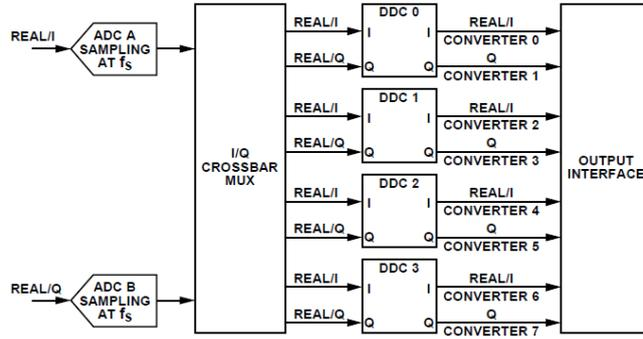
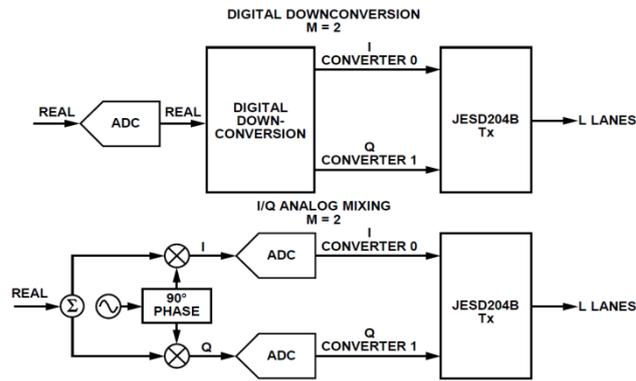

Figure 12. DDC and Virtual Converter Mapping
Figure 13. I/Q transport layer mapping
After selecting the chip application mode, the chip decimation ratio is set using bits [3:0] of register 0x0201. The output sampling rate = ADC sampling rate / chip decimation ratio. To support different application layer modes, the ADCP9695-23 treats each sample stream (real, I, or Q) as an independent virtual converter. Table 2 shows the number of virtual converters and transport layer mapping required when channel switching is disabled. Figure 12 shows the virtual converters and their relationship to the DDC output when using complex outputs. Each DDC channel output is used for two sample streams (I/Q) for complex data (real + imaginary), or one sample stream for real (I) data. The ADCP9695-23 can be configured to use up to eight virtual converters, depending on the DDC configuration. I/Q samples are always mapped in pairs to I samples mapped to the first virtual converter and Q samples mapped to the second virtual converter. With this transport layer mapping, the number of virtual converters is the same whether a single real converter produces I/Q outputs through a digital downconverter or I/Q outputs are produced through two real converters after analog downconversion. Figure 13 is a block diagram describing two scenarios of I/Q transport layer mapping.